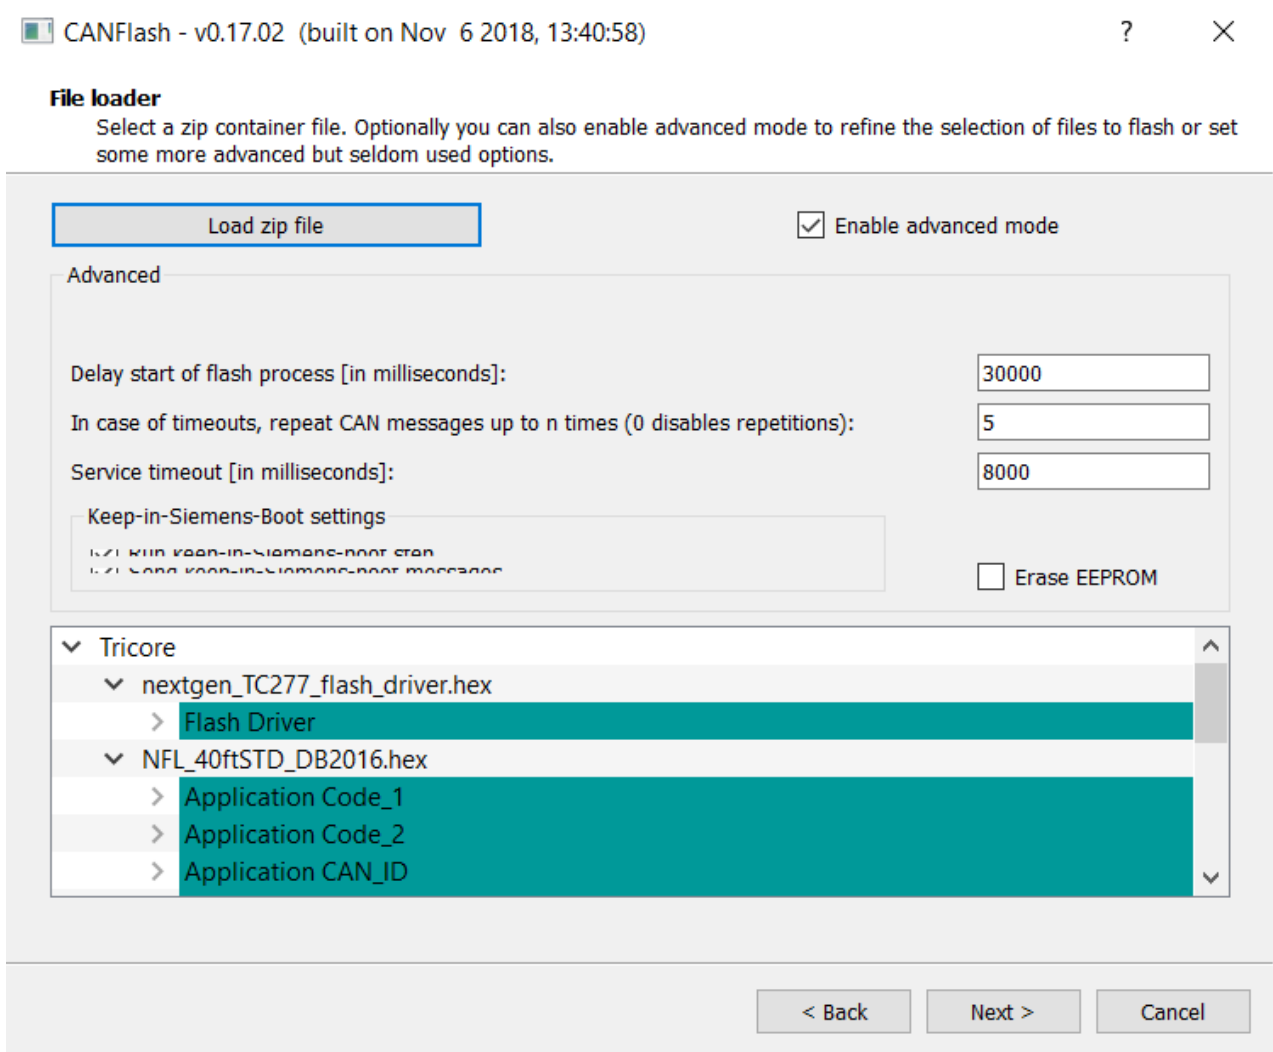

Figure 4: Advanced settings for CANFlash
14. Click the **Enable advanced mode** button. Change the **Delay start of flash process** box to 30000. Change the **repeat CAN messages** box to 5 (see figure 4). Click **Next** when complete.